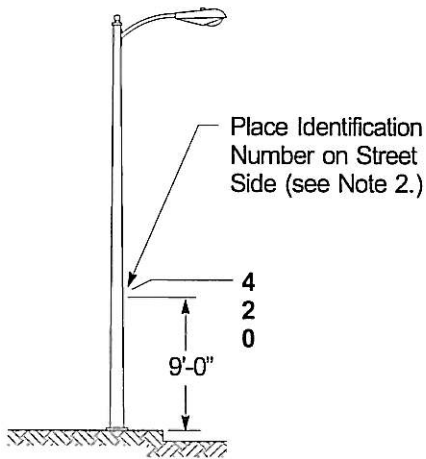
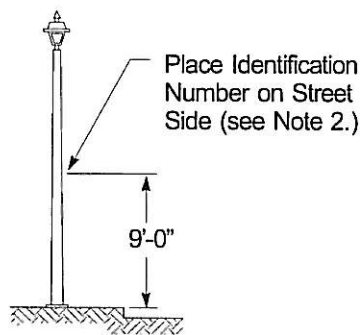
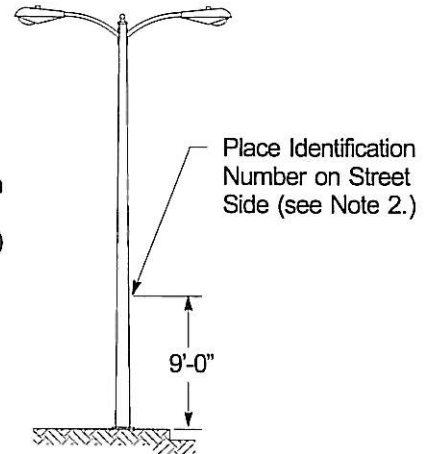

Figure 1
Figure 2
Figure 3
1. Figure 1, Figure 2 and Figure 3 are metal or concrete poles or posts.